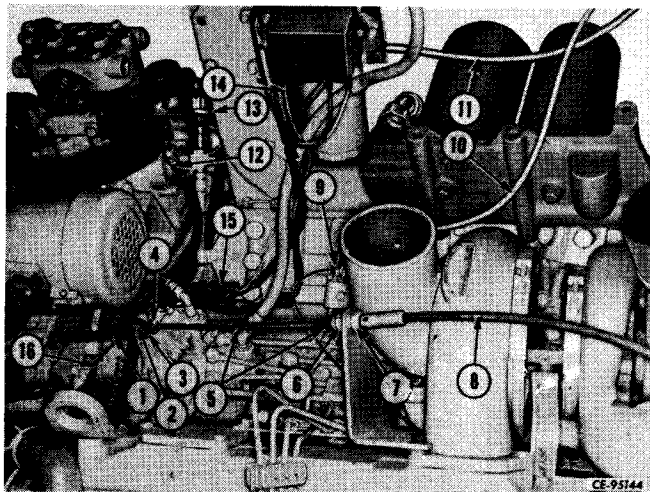

Figure 2-24
From the top of the engine connect accelerator control to fuel injection pump lever by installing control cable through support bracket. Install and tighten cable nut and washer (6, Fig. 2-24). Install cable boots (5), jam nut (4), spring bracket (3) and ball joint (2). Install and tighten nut and lock washer securing ball joint (2) to fuel injection pump lever. Install cable return spring (1). For accelerator linkage adjustment, refer to Section 9, "ACCELERATOR LINKAGE."